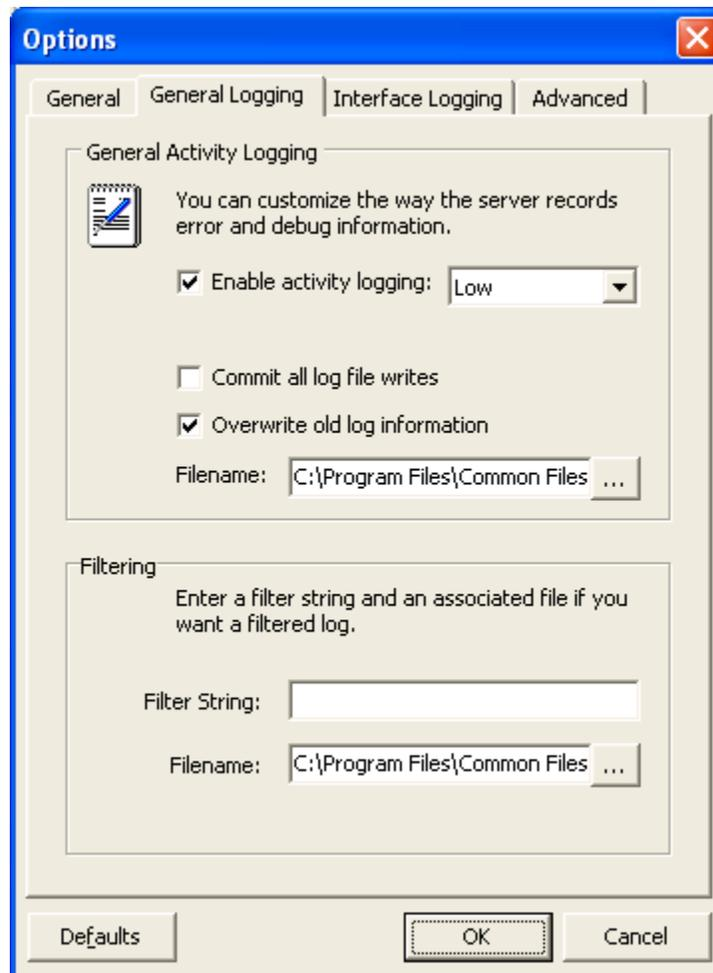

Figure 15 - General Logging Options Tab
3. From the **Options** window, select the **General Logging** tab (Figure 15).